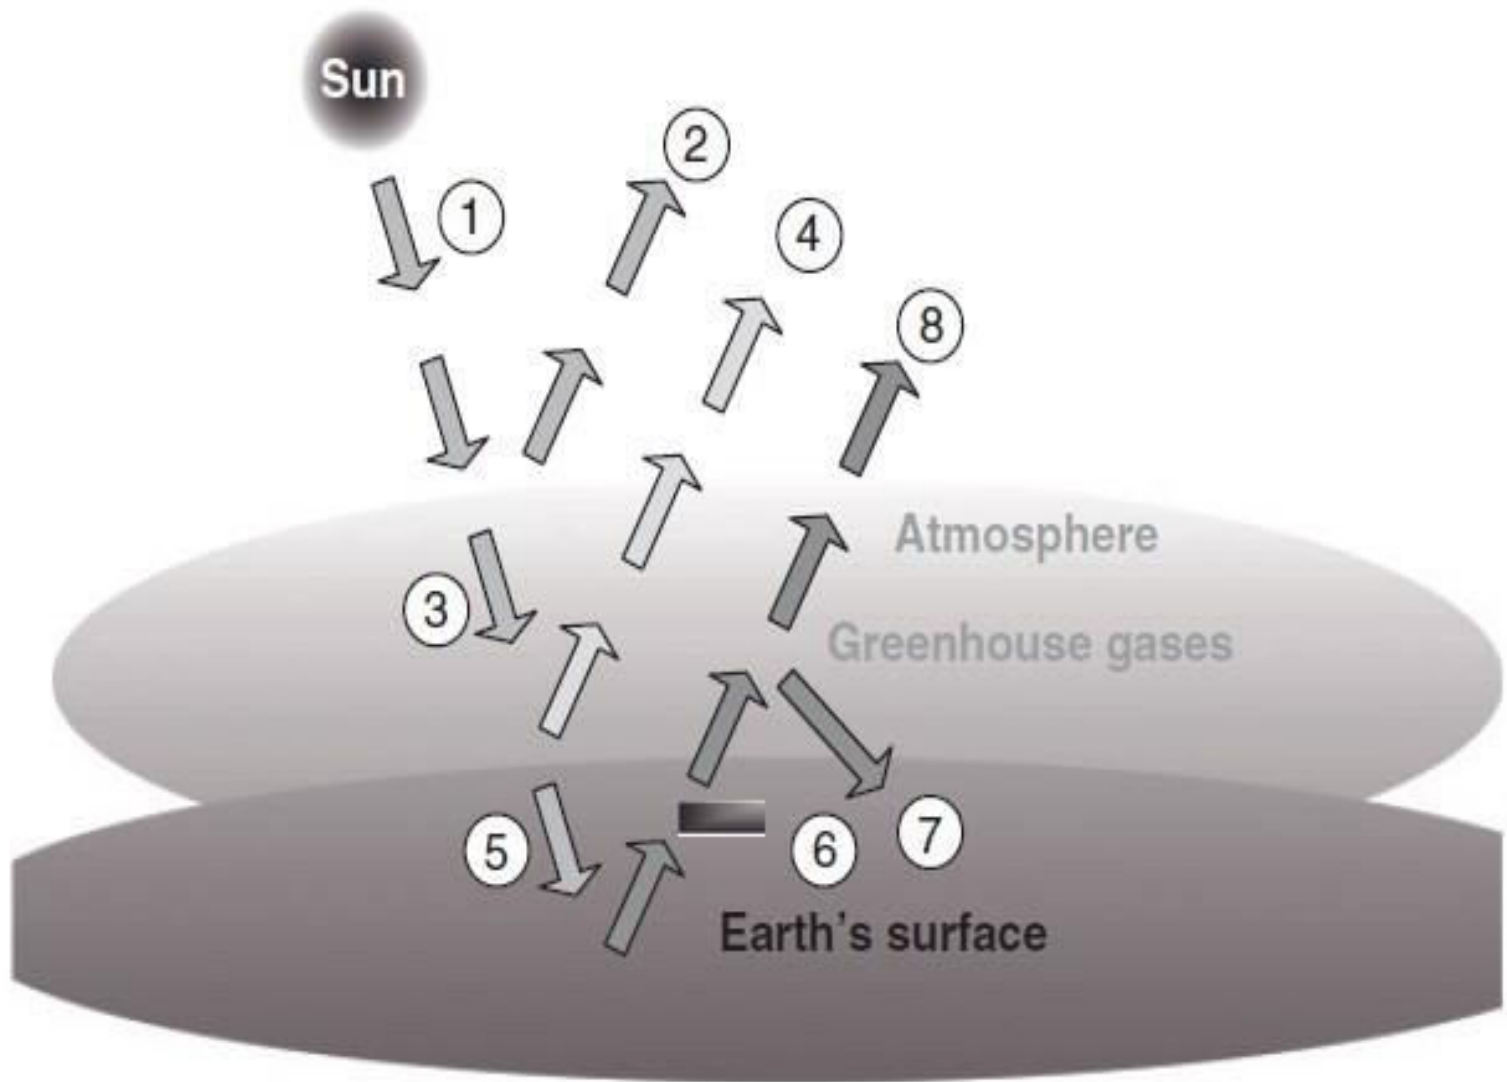

Figure 1.4 The Effects of Sun Radiation on the Surface of the Earth.
- As the thermal IR radiation from the sun reaches the earth, some of the heat is absorbed by earth's surface and some heat is reflected back into space as it can be seen in Figure 1.4.